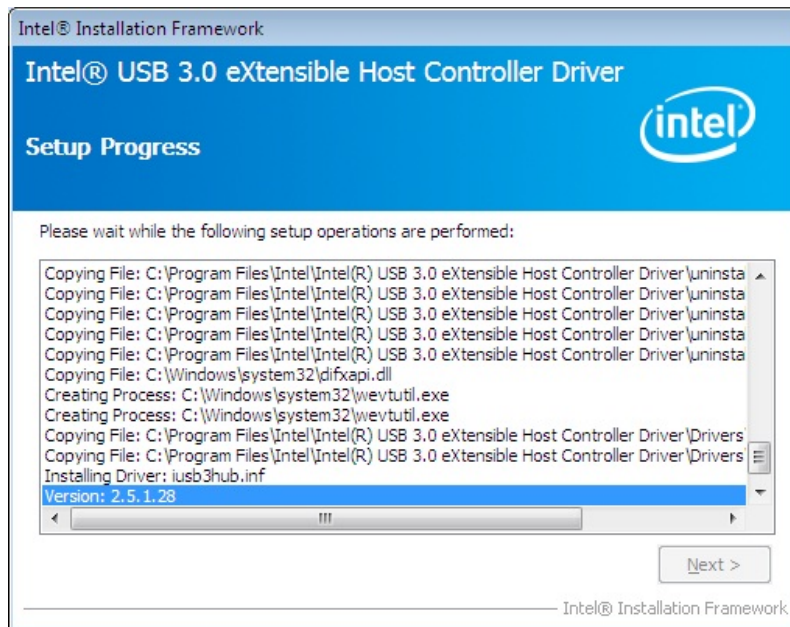

Figure 6-25: USB 3.0 Driver Setup Operations
Step 9: Setup Operations are performed as shown in Figure 6-25.